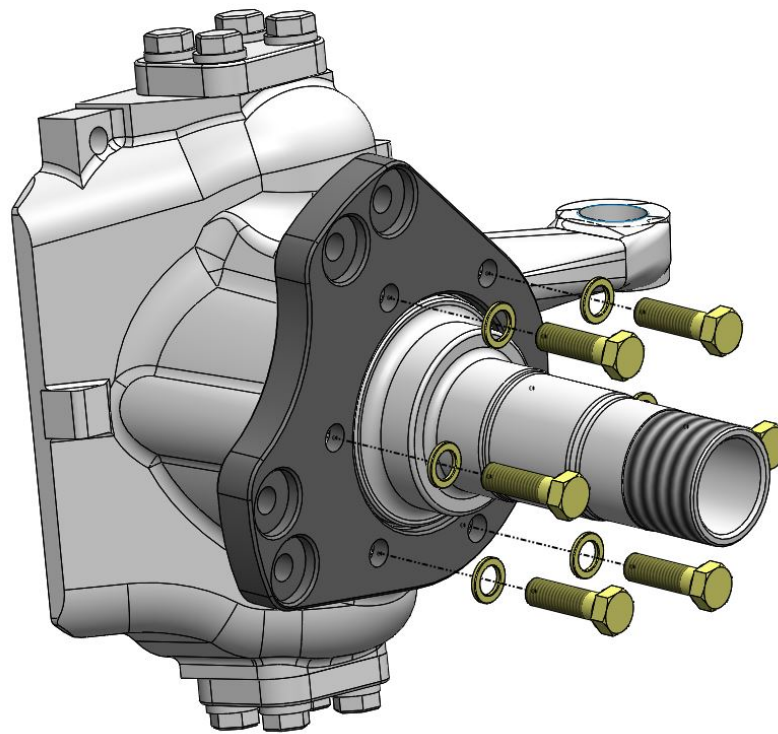

Figure 3 – Installing the Primary Bracket to Spindle
9. Install the primary caliper mounting bracket onto the factory knuckle using the provided 3/8"-24 x 1-1/4" bolts and 3/8" AN Flatwashers. The bracket installs with the caliper to the rear of the vehicle and the counter bores are facing towards the outside of the vehicle. Torque these bolts to 65 ft/lbs. Figure 3 on the following page shows the bracket being installed.